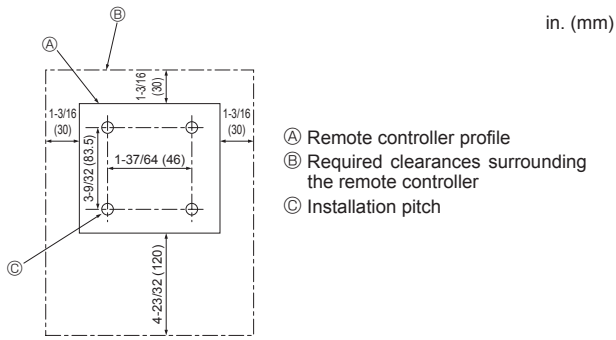

Fig. 5-5
1) Installing procedures (Fig. 5-5)